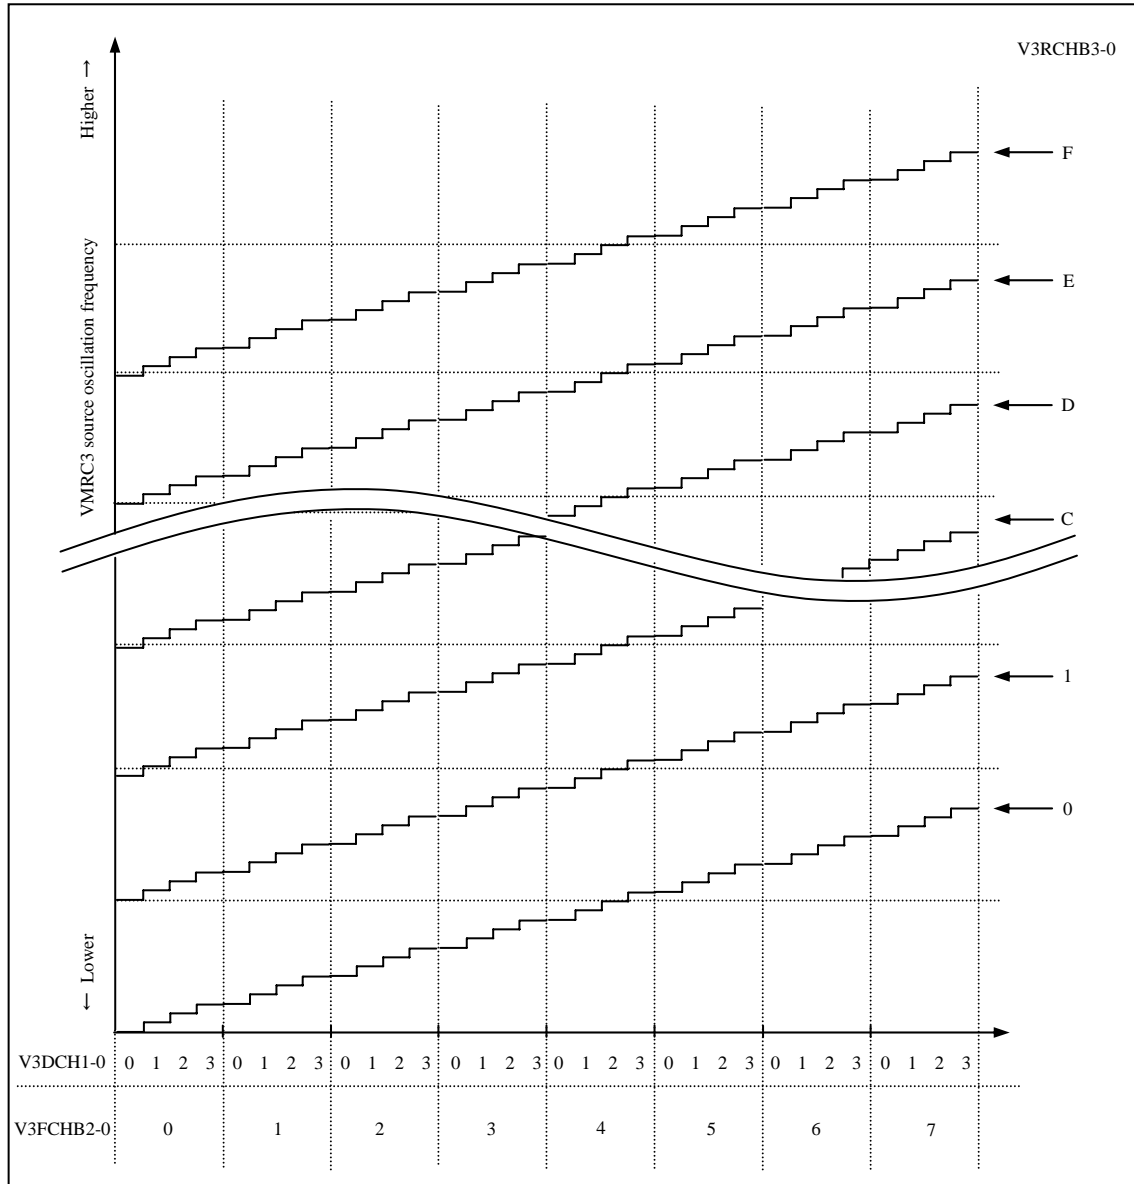

Figure 4.3.3 Example of VMRC3 Source Oscillation Frequency Characteristics
- 2) The VMRC3 source oscillation frequency as adjusted by V3RCHB3 to V3RCHB0, V3FCHB2 to V3FCHB0, and V3DCH1 to V3DCH0 is shown in Figure 4.3.3, "Example of VMRC3 Source Oscillation Frequency Characteristics." The adjustment margins vary depending on the supply voltage and ambient temperature. Refer to the latest edition of the SANYO Semiconductor Data Sheet for details.